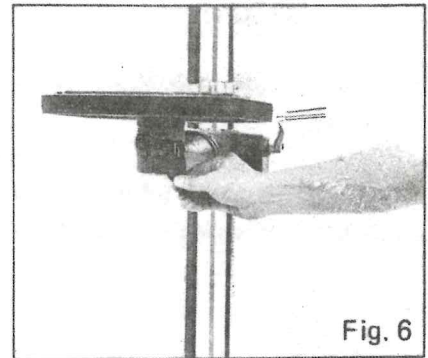

Fig. 6
4. Install table and clamp with bolt. Fig. 6.